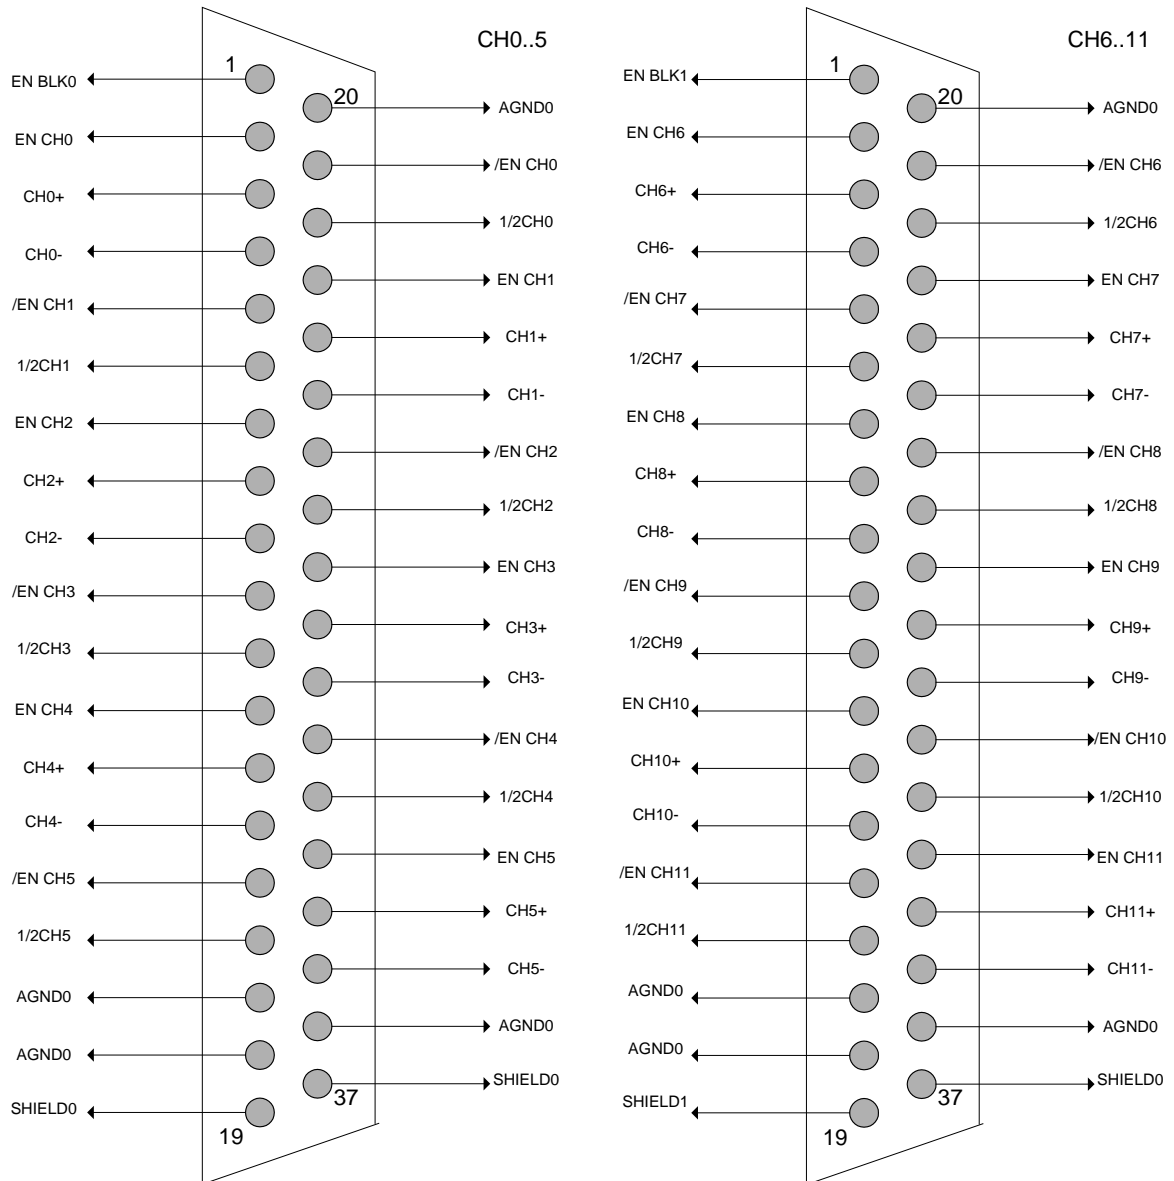

Fig. 3.3 - Mod. A 1510 front panel connectors pin assignment
- *ENMODE0*: if ENCHx and /ENCHx front connector pins (see Fig. 3.3) are not connected, x channel is enabled; if ENCHx and /ENCHx pins are short circuited, channel x is disabled